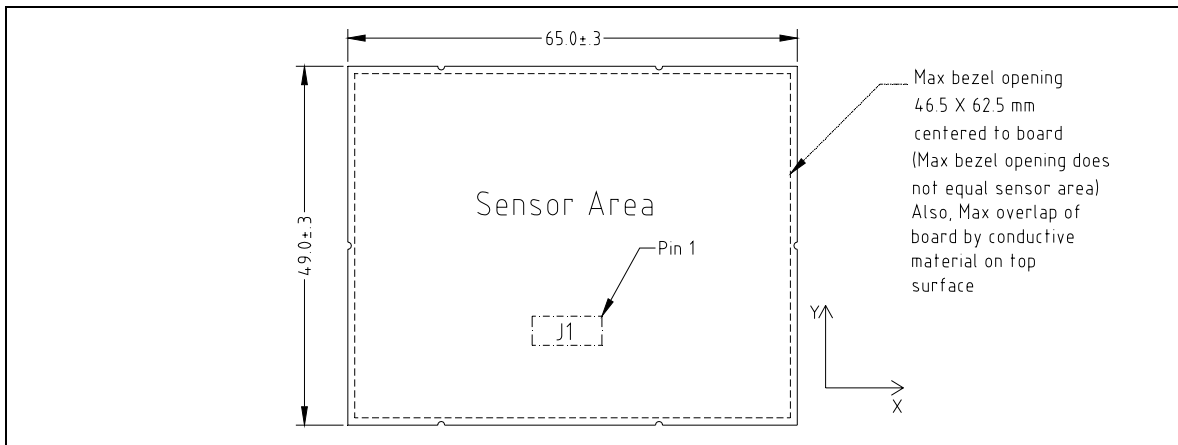
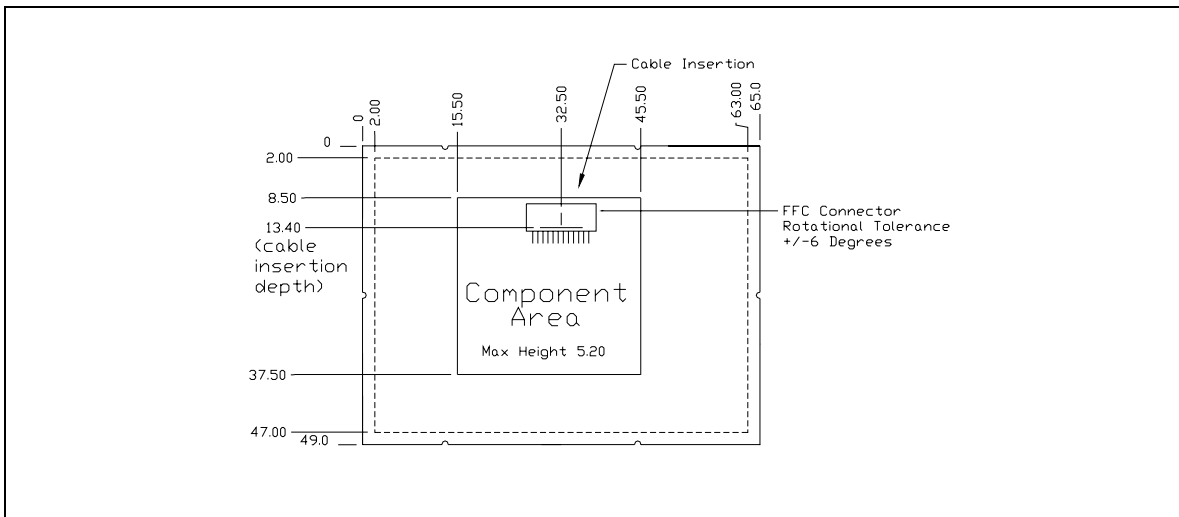

Figure 1. Sensor (Top) View
Figure 3. Component (Bottom) View
- Has a sensor surface (Figure 1) and the other side contains electronic components (Figure 3). A smooth and durable Facesheet protects the sensor surface area. The Facesheet covering can be screen-printed in any color or pattern upon request.
- Supports “graphics tablet mode,” which turns the module into a finger-operated, pressure-sensitive graphics tablet. In this mode, host software receives the absolute position (X, Y) and pressure (Z) information.